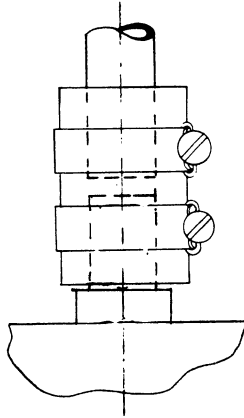

Figure 6-21. Optimum Location of Clamps to Minimize Area of Tygon Exposed to Vacuum
6. Tighten the hose-clamps at the roughing pump. Locate the clamps close to the ends of the metal tubing as shown. This minimizes the area of Tygon surface exposed to vacuum (Figure 6-21).